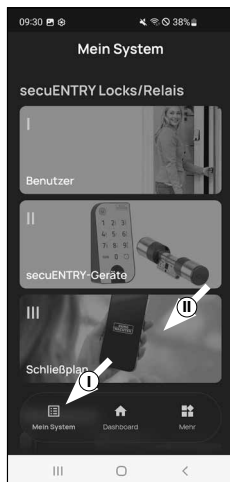

Fig. 1
- ① Use this menu to define the locking plan, namely which user is allowed to open which lock. The data is then transferred to the cylinder.
- ② Open the "My System" menu (I) (Fig. 1).
- ③ Tap on the fourth menu item "III - Locking plan" (Fig. 1).